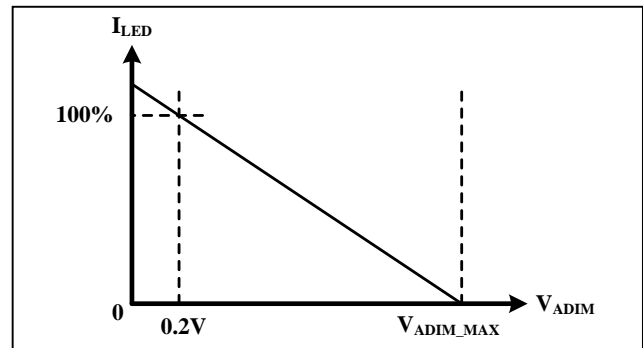

Figure 33 Analog Dimming Voltage vs LED Current
According to above Equation (5), when R_{DIM1}, R_{DIM2} and R_{ISET} are selected, the LED current I_{LED} can be adjusted by V_{ADIM} voltage. And I_{LED} is reversely proportional to V_{ADIM}, the higher V_{ADIM} the lower LED current. When V_{ADIM} is 0.2V, the V_{ISET} is equal to V_{FB}. As Figure 33 graph. The recommended R_{DIM2} value is 1kΩ.